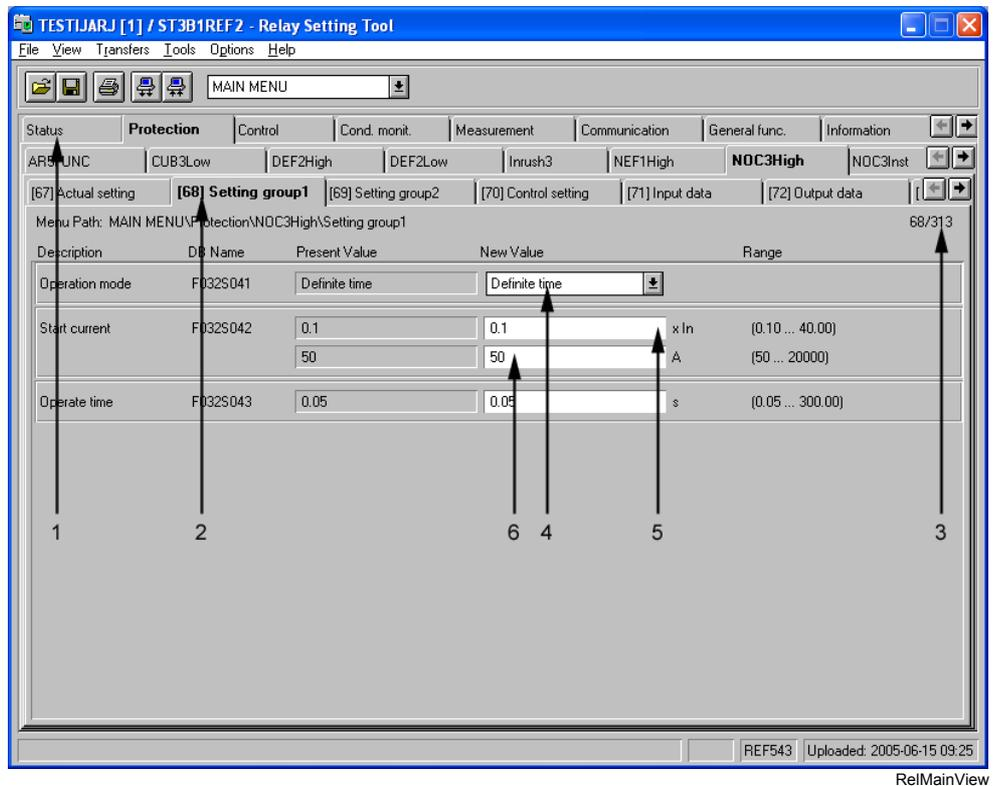

Fig. 5.4.7.2.-1 Relay Setting Tool's Main View
When a menu from the Relay Setting Tool is selected, a menu hierarchy of the functions (see Fig. 5.4.7.2.-1, item 1) available for the relay unit is displayed in the tool area. Each function holds several tabbed pages of configurable parameters.
The Relay Setting Tool's Main View contains tabbed pages. The hierarchy and the number of these tabbed pages depends on the selected relay. A tabbed page can be selected by clicking the wanted page with the mouse, e.g. page 68 (see item 2 in Fig. 5.4.7.2.-1). Item 3 in Fig. 5.4.7.2.-1 indicates the last page (313).